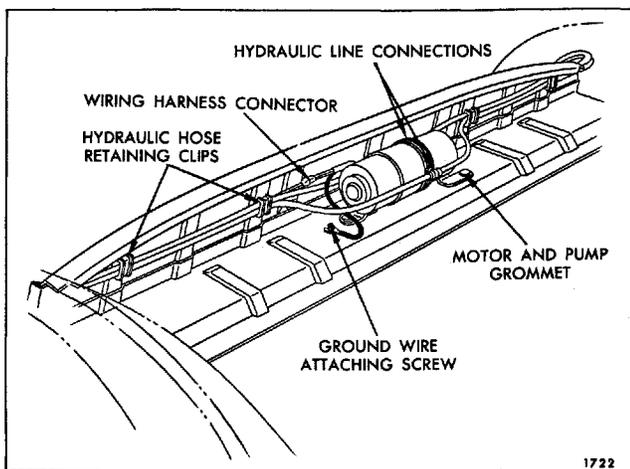
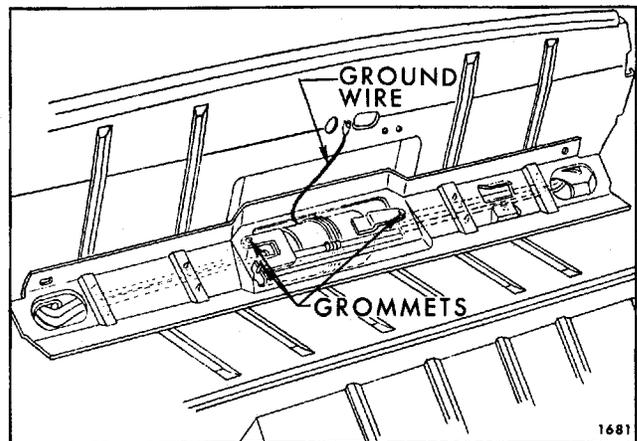

Fig. 6-58—Motor And Pump Assembly
Fig. 6-59—Hydro-Lectric Motor And Pump Assembly
The high pressure hydro-lectric unit used in the convertible bodies, consists of a 12 volt reversible type motor, a rotor-type pump, two hydraulic lift cylinders, and an upper and lower hydraulic hose assembly. On the "A" Series the unit is installed in the body directly behind rear seat back. (Fig. 6-58). On the "B & C" Series the unit is installed in the body beneath the rear seat back panel (Fig. 6-59).
6. Remove clips securing wire harness and hydraulic hose to rear seat back panel. (Figs. 6-58 and 6-59).
7. a. On "A" Body Styles disconnect motor leads from wire harness and ground attaching screws (Fig. 6-58).
- b. On "B & C" Body Styles at rear seat back panel, disconnect wiring harness and remove ground wire attaching screw (Fig. 6-59).
8. To facilitate removal, apply a rubber lubricant to pump attaching grommets; then carefully disengage grommets from floor pan. (Figs. 6-59 and 6-58).
11. Disconnect hydraulic lines and cap open fittings to prevent leakage of fluid. (Figs. 6-58 and 6-59). Use a cloth to absorb any leaking fluid, then remove unit from rear compartment.